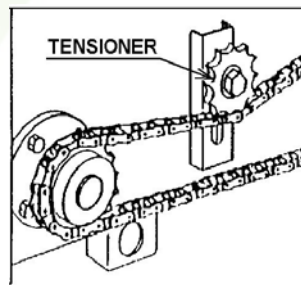

Fig. 9
- Adjust the tension of the transmission chains, by using the special tensioners (fig. 9).